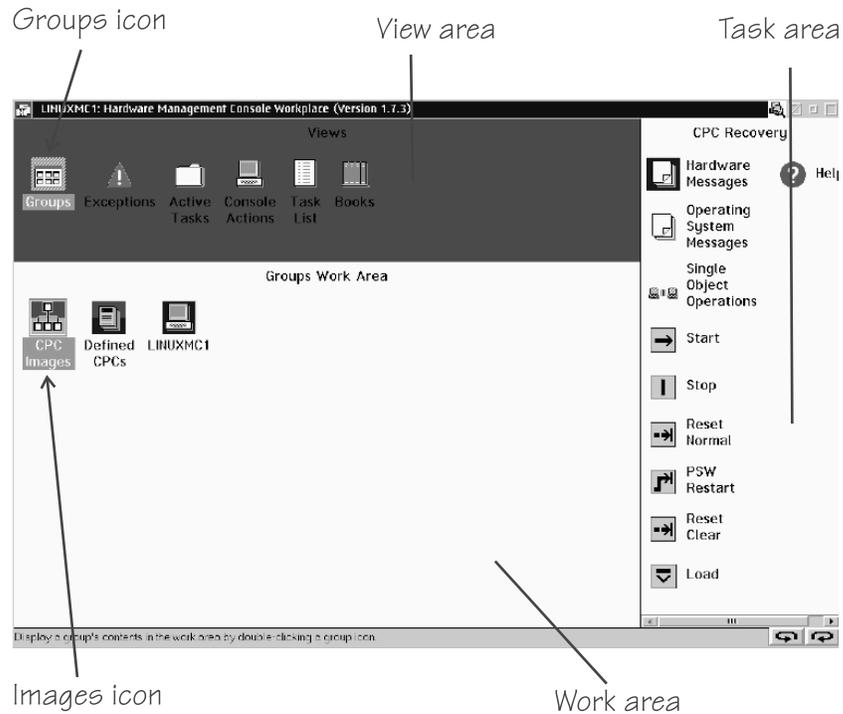

Figure 57. Groups Work Area on the HMC
1. Click the Groups icon in the “Views” area of the HMC to display the “Groups Work Area” (Figure 57 on page 291).